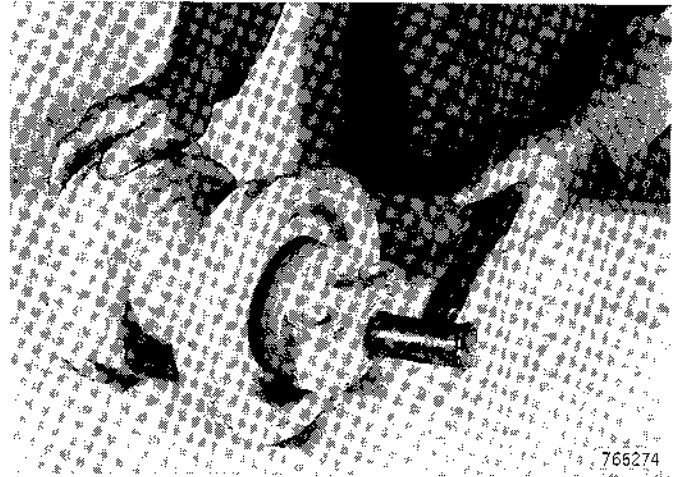

Figure 10
8. Use a soft hammer to drive the shaft free of the end cap, Figure 10.